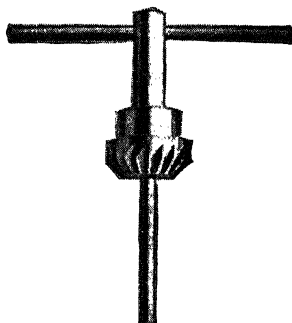
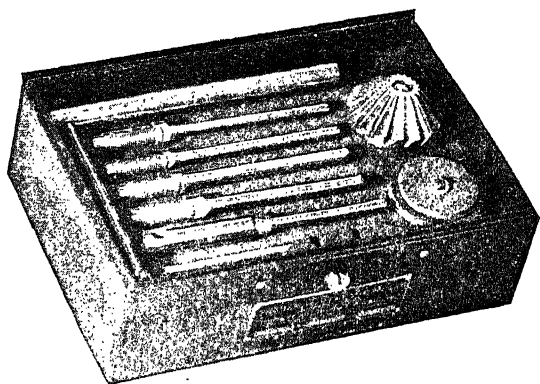

Fig. 26. Valve-Seat Refacing Tool
Fig. 27. Valve-Seat Refinishing Tool with Set of Arbors
**Reseating Valves with Reamers.** At one time the amount of service an automobile would give was not measured in such exceedingly large units as at present. For this reason a set of valves could be ground and reground a sufficient number of times to serve for the life of the ordinary engine. When engines were so built that their parts would stand up for service of hundreds of thousands of miles, it was found that the valve seat would wear away after repeated grinding and was only to be reconditioned by means of special tools. In order to accomplish this, the special seat refacing or reaming tools were designed. These are ordinarily spoken of as valve-seat reamers. They are made with an angle face corresponding to the usual valve face, most of them being 45 degrees. They may be purchased in either the roughing or finishing style. It is also possible to purchase reamers which will reduce the amount of metal surrounding the valve seat itself. These are the 70- or 75-degree cutters and the 15-degree cutters. The simplest form of these valve reamers is shown in Fig. 26. A set of arbors with a reamer is shown in Fig. 27. When using a reamer of this type, the first problem is breaking through the hard crust or scale which is left on the valve-seat face after thousands of miles of operation. Exert considerable pressure downward while driving the valve reseating tool in a forward direction. Do not back up on the tool and do not attempt to turn it without sufficient pressure to see that it bites through the crust immediately. Once through the crust, the reaming operation is comparatively easy. If the teeth are allowed to slide over the crust, they in turn may be damaged and the work made very difficult.